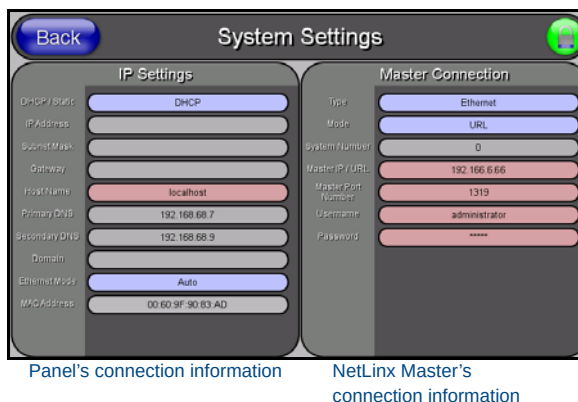

FIG. 8 Sample System Settings page
9. Press the **System Settings** button to open the System Settings page (FIG. 8).